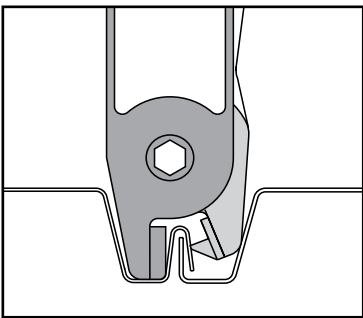

Figure 1
- 6. Place jaw over deck standing seam side lap. Be sure the tool is perpendicular to the metal deck and the tool is in contact with the deck bottom flange and oriented with the handle and teeth on the same side as the downward return leg. (see Figure 1)